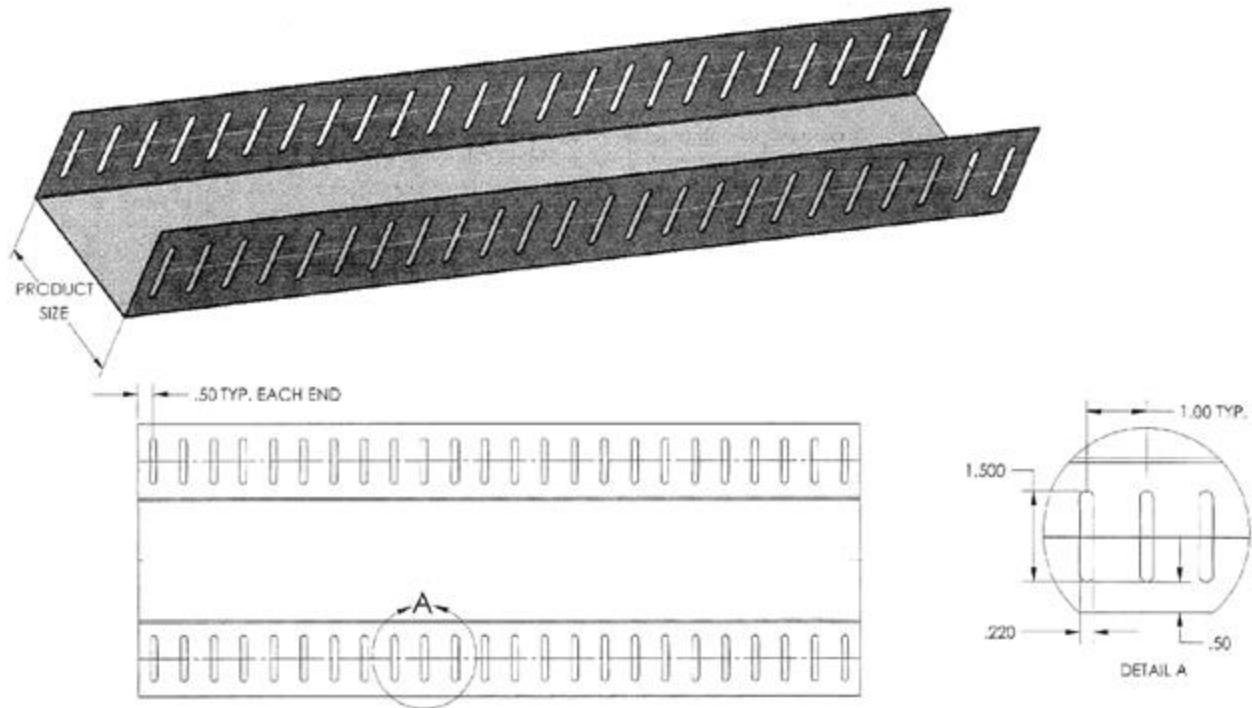
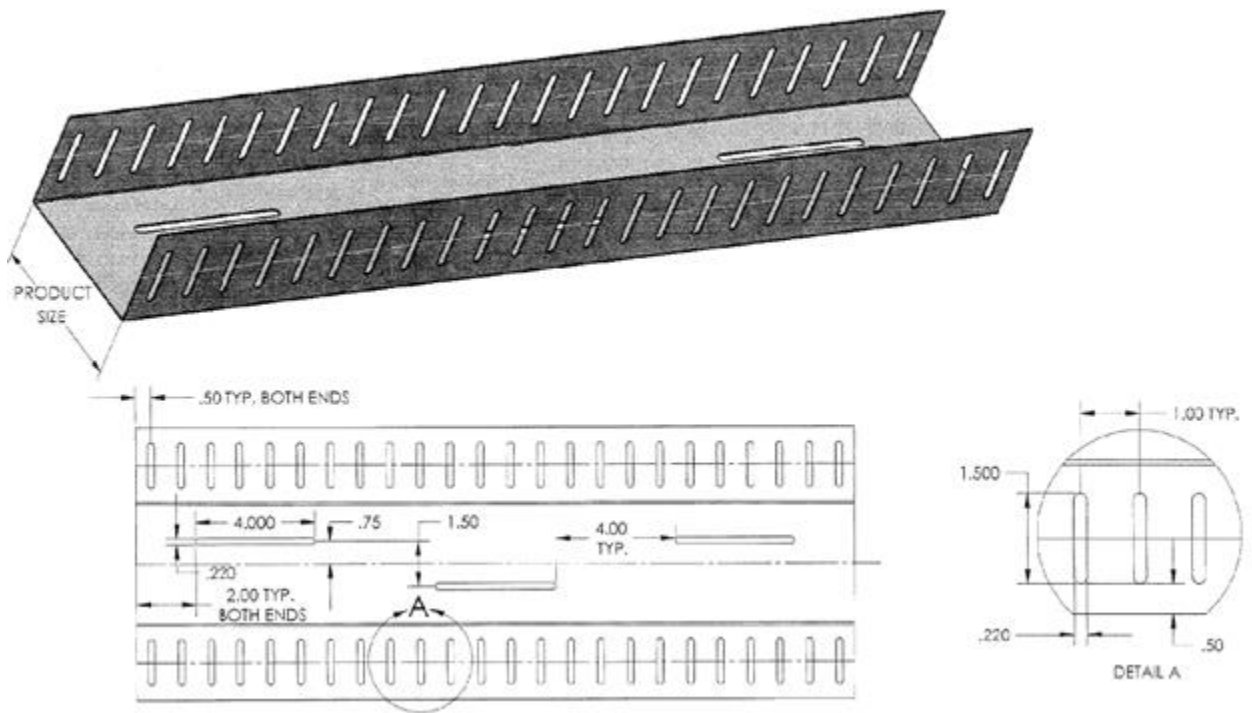

FIGURE 1 – MAXTRAK™ SLOTTED DEFLECTION TRACK (SLT) DETAIL
FIGURE 2 – MAXTRAK™ SLOTTED DEFLECTION & DRIFT TRACK (SLT-H) DETAIL
3.1 *MaxTrak™* SLT and *MaxTrak™* SLT-H deflection tracks are available in steel thicknesses of 33 mil, 43 mil, 54 mil, and 68 mil. Deflection tracks are available in widths of 2-1/2 inch, 3-5/8 inch, 4 inch, 6 inch and 8 inch. See Figure 1 and Figure 2 for track profiles.